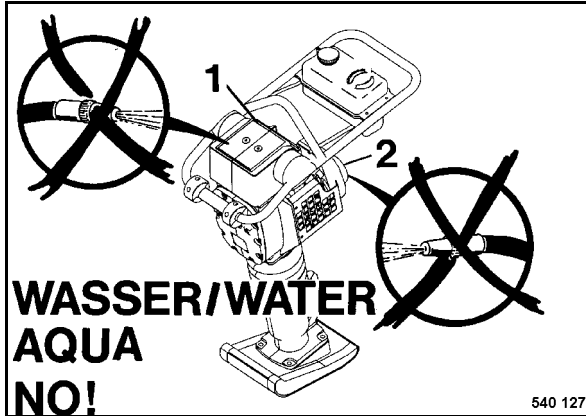

Fig. 30
- Do not guide the water jet directly into the air filter 1 (Fig. 30) and into the starter/air intake (2).